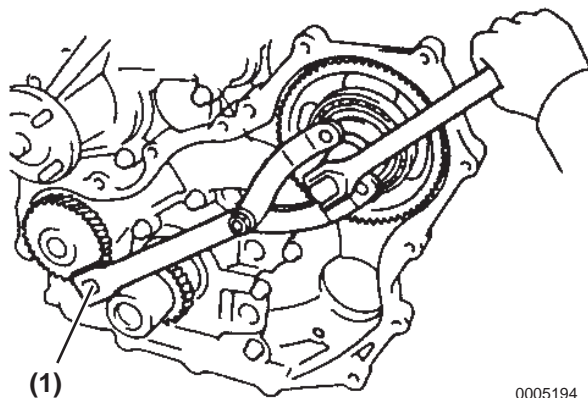

Figure 5-194
17. Using a suitable tool (**Figure 5-194, (1)**) hold the fuel injection pump gear and loosen the gear nut.